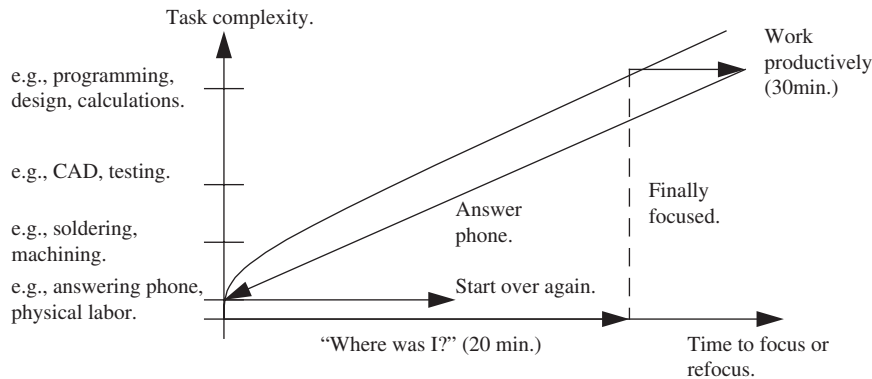

FIGURE 4.8
The next factor in productivity is task switching. Tasks can be crudely categorized using (1) time to completion and (2) complexity. When a task is complete there is a sense of perception and achievement, a reward. For short-duration tasks there can be a frequent series of rewards. Some people thrive in this environment. When doing longer tasks the rewards are much larger but come less often. Simple tasks, such as responding to email, can be done quickly while larger tasks require more time to focus. The time to focus on the complex task can require minutes or more, and once interrupted the focus is lost. People working on complex tasks become easily frustrated when small interruptions break their focus and require time to refocus. An example of losing focus for a complex task is shown in Figure 4.8. The obvious lesson here is that interrupting complex work will have a larger impact on productivity. This is why many knowledge workers, such as computer programmers, prefer to work odd times of the day when other people have gone home. Productive professionals will often book times without interruptions when they need to do large tasks.